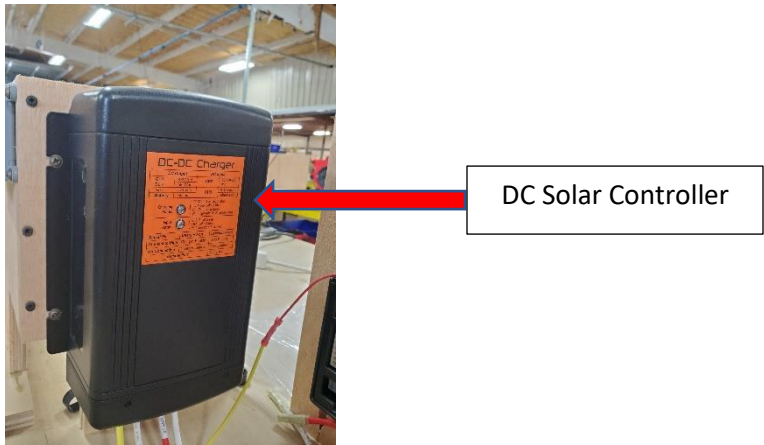

Figure: 27
9. Check DC to DC Solar controller for proper wiring configuration. (Figure 27)